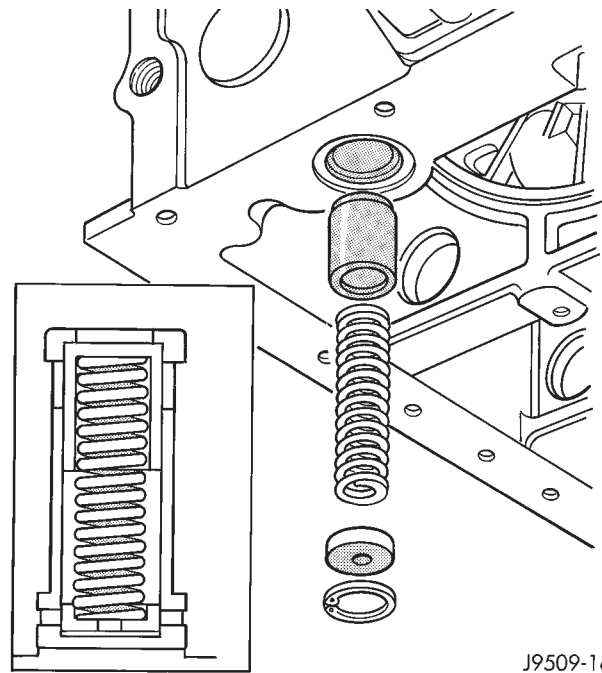

Fig. 40 Oil Pressure Relief Valve
- (1) Remove oil pan.
- (2) Remove clip retaining relief valve.
- (3) Remove relief valve cap, spring, and plunger (Fig. 40).
- (4) Check relief valve spring length. Relief valve spring free length is 57.5mm (2.263 in.). If spring length is less or spring is distorted it must be replaced.
- (5) Check plunger for scoring, replace if necessary.